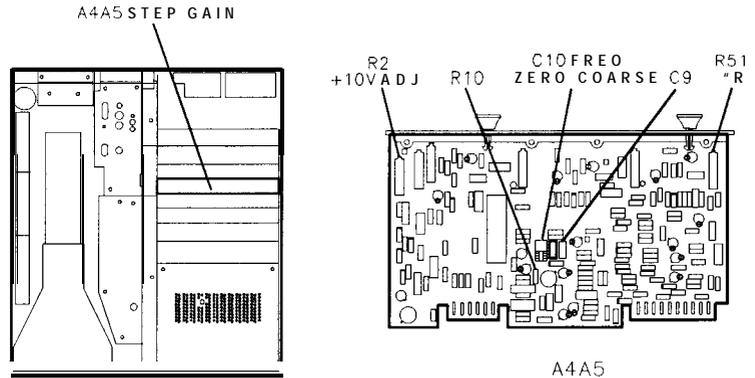

Figure 3-49.
31. Adjust A4A5R51 VR for MKR A level of + 0.10 dB. See Figure 3-49 for location of adjustment.
33. Press INSTR PRESET and RECALL (9).
35. Adjust A4A5C10 FREQ ZERO to peak signal trace on CRT. See Figure 3-49 for location of adjustment.
6. 18.4 MHz signal and displayed harmonics should be below -10 dBm (-30 dBm on display due to 10:1 divider). If unable to adjust A4A6A1C31 18.4 MHz NULL for proper indication, increase value of A4A5R10. See Figure 3-49 for the location of A4A5R10. Refer to Table 3-3 for range of values.